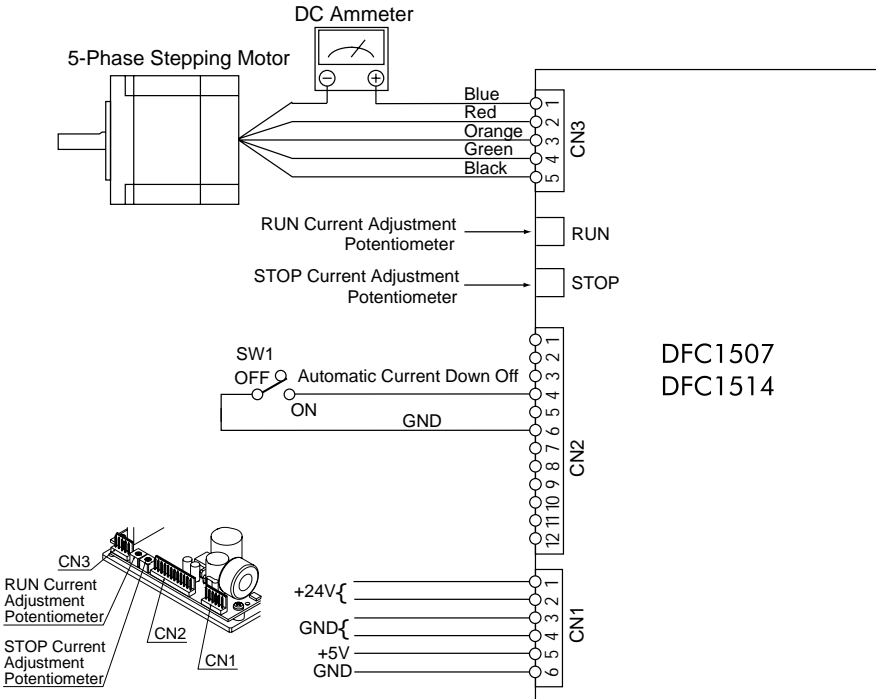

Figure 11 Wiring for Modifying the Driver RUN and STOP Currents
RUN and STOP currents are adjusted before shipment so that matched motor/driver units are ready for immediate use. However, the output current can be lowered to reduce heat generation and vibration. To modify the currents, use the test circuit in Figure 11.
3. Connect the motor to CN3 and insert an ammeter in the blue wire between terminal 1 and the motor as shown in Figure 11.
1. Connect the motor to CN3 and insert an ammeter in the blue wire between terminal 1 and the motor, as shown in Figure 11 on page 13.